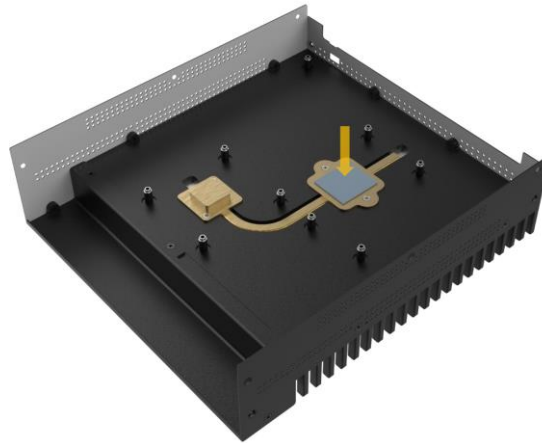

Figure 3-4: CPU Thermal Pad Installation
Step 3: Place a thermal pad on the heat conductive block of CPU (**Figure 3-4**).